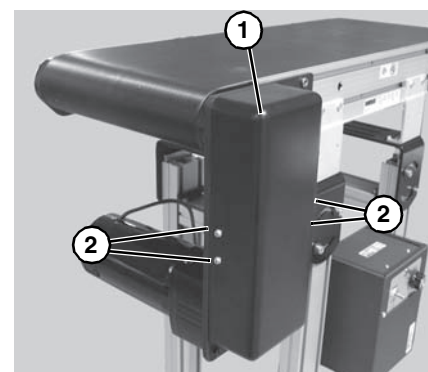

Figure 10
9. Install cover (Figure 10, item 1) with four (4) screws (Figure 10, item 2). Tighten screws to 35 in-lb (4 Nm).
1. Remove four (4) screws (**Figure 10, item 2**) and remove cover (**Figure 10, item 1**).
4. Install cover (**Figure 10, item 1**) with four (4) screws (**Figure 10, item 2**). Tighten screws to 35 in-lb (4 Nm).
6. Install cover (**Figure 10, item 1**) with four (4) screws (**Figure 10, item 2**). Tighten screws to 35 in-lb (4 Nm).